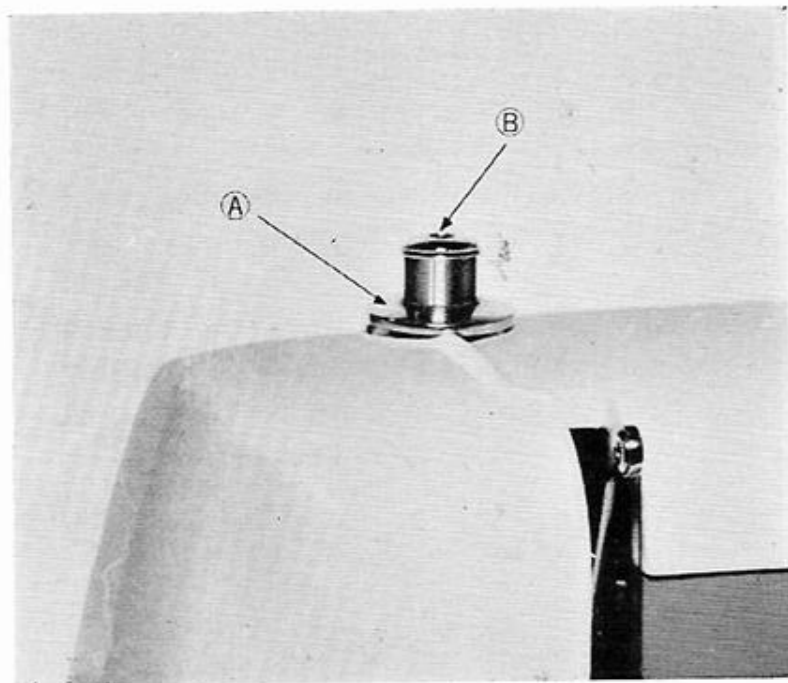

Fig. 13
- (b) Press down the patchmatic darning (A) (Fig. 13) and the presser bar will jump up and the pressure will become weak.
Press down the presser bar cover (B), (Fig. 13) and the pressure will become strong.
- (c) You can easily adjust the presser. In the case of embroidering, the presser bar cover (B) should be raised to its highest point.